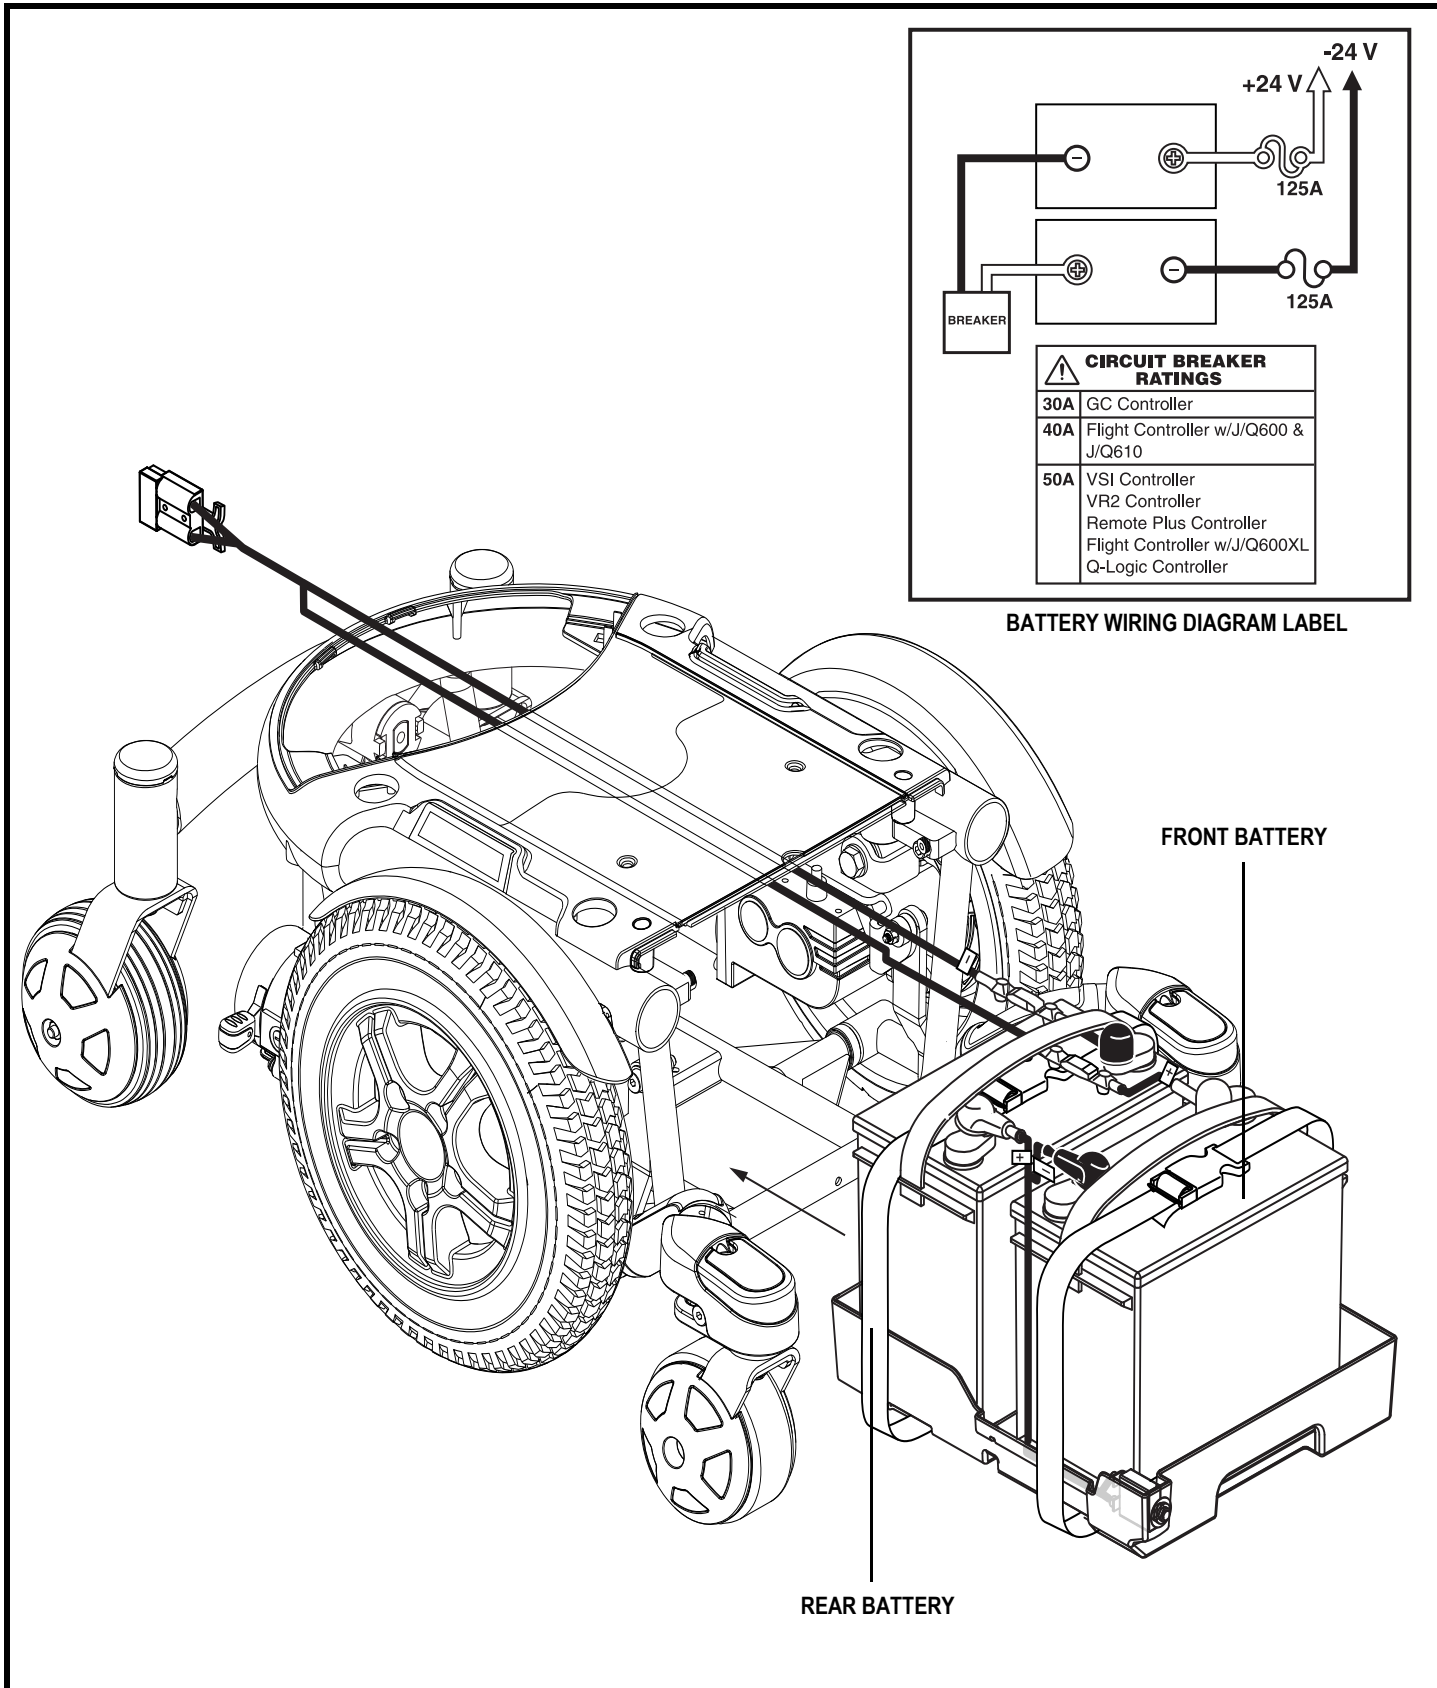

Figure 25. Battery Installation
13. Connect the battery harness to the front battery according to the battery wiring diagram. See figure 25.